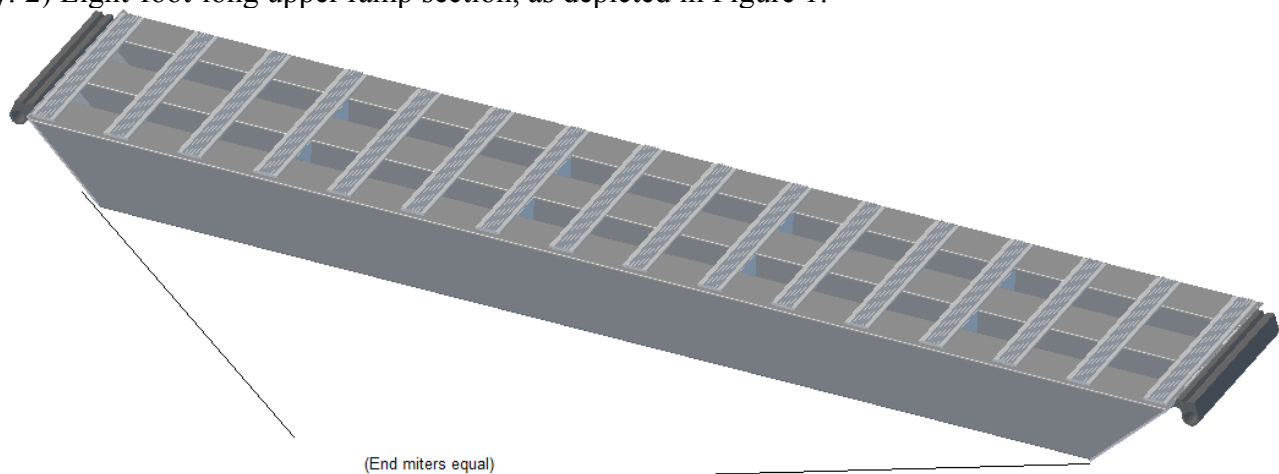

Figure 1 – Illustrated view of a Single 8 ft Upper Ramp Section
- (Qty: 2) Eight-foot-long upper ramp section, as depicted in Figure 1: